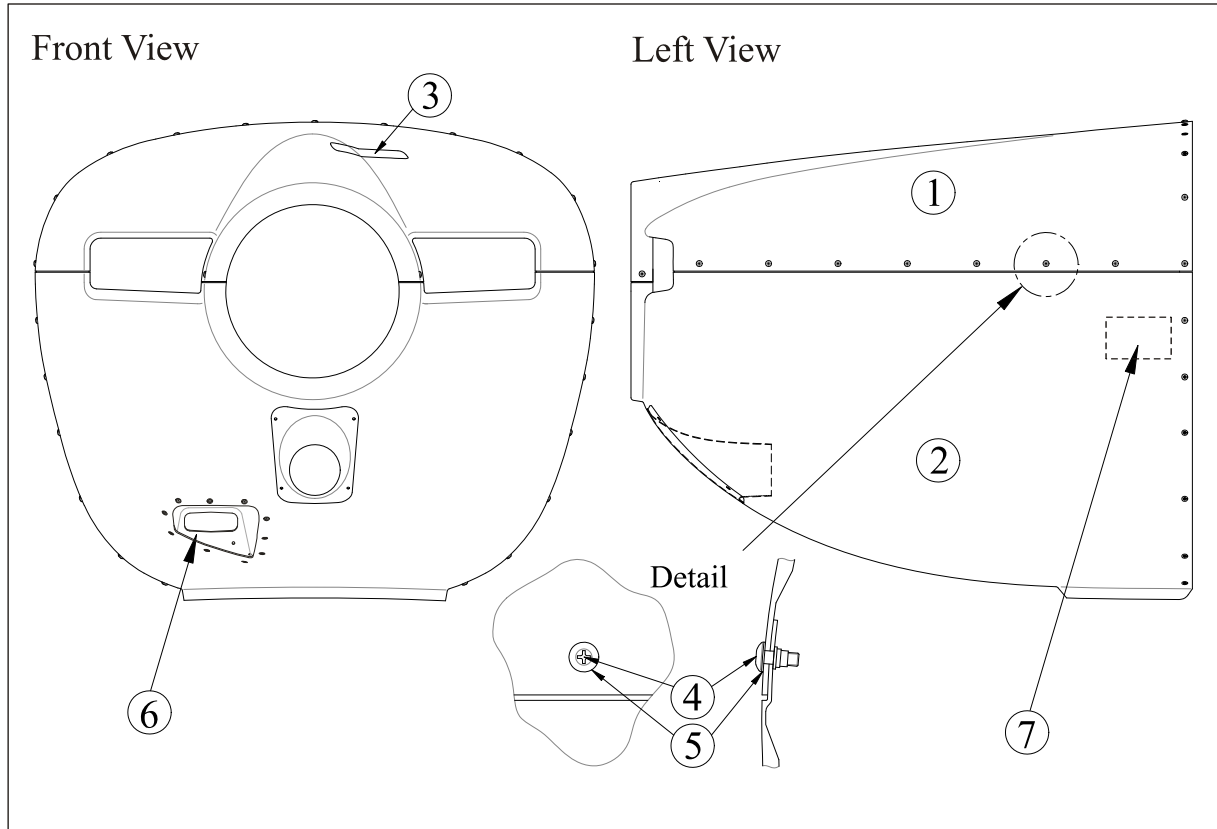

Figure 1
The engine cowling is divided into two parts: The top half (1, figure 1) and bottom half (2) made of CFRP honeycomb sandwich.
- 2 Remove the related truss head screws (4) & (5) of top cowling half (see Figure 1).
- 5 Remove the remaining truss head screws (4) & (5) of the bottom cowling half (see Figure 1).